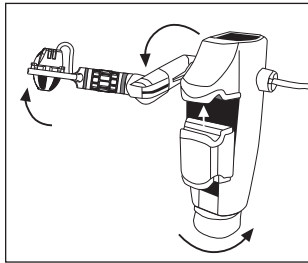

Figure 2
2. Turn the bottom thumbscrew anti-clockwise to secure the body. (Figure 2)
3. Adjust the microphone shaft and microphone head to the desired position. (Figure 2)